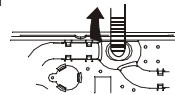

Figure 4
- Take out the drain hose from the fixing groove. Extend it from the rear side as per the direction of the arrow. (When the drain hose is extended from the rear side, it can be hung on the point for drain hose at the two sides of the cabinet.) (See to Figure 4).